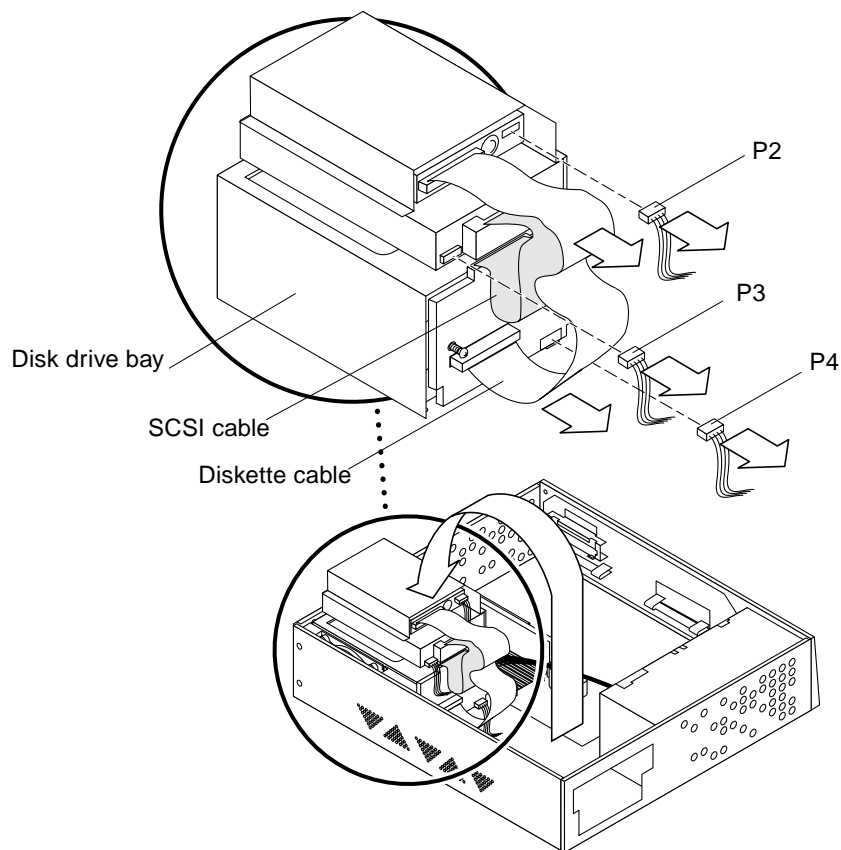

Figure 2-11 Placing the Drive Bracket on Top of the Disk Drive
4. Push the drive bracket toward the disk drive bay and gently flip it over. Place the drive bracket on top of the disk drive bay (Figure 2-11).
6. Disconnect the SCSI cable from the CD-ROM/tape drive (Figure 2-11).